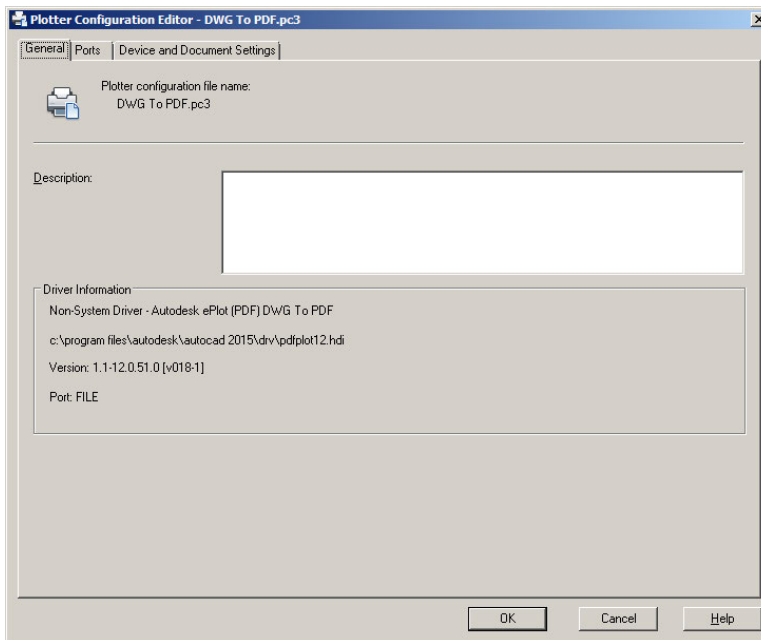

Figure 39-Plotter Configuration Menu-General Tab
1. Simply choosing the correct printer/plotter and the correct plot style table will not guarantee that your drawing plots correctly. The specific settings for your PDF file must be set. To do that, you must enter AutoCAD's Plotter Configuration Editor (Figure 39). Open this editor one of two ways.